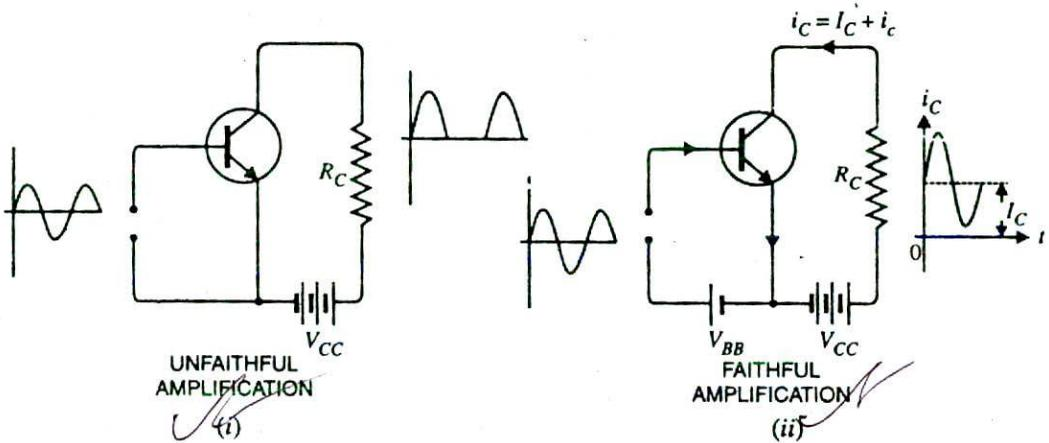

Fig. 11.1
**(i) Proper zero signal collector current.** Consider an *npn* transistor circuit shown in Fig. 11.1 (i). During the positive half-cycle of the signal, base is positive w.r.t. emitter and hence base-emitter junction is forward biased. This will cause a base current and much larger collector current to flow in the circuit. The result is that positive half-cycle of the signal is amplified in the collector as shown. However, during the negative half-cycle of the signal, base-emitter junction is reverse biased and hence no current flows in the circuit. The result is that there is no output due to the negative half-
Now, introduce a battery source  $V_{BB}$  in the base circuit as shown in Fig. 11.1 (ii). The magnitude of this voltage should be such that it keeps the input circuit forward biased even during the peak of negative half-cycle of the signal. When no signal is applied, a d.c. current  $I_C$  will flow in the collector circuit due to  $V_{BB}$  as shown. This is known as zero signal collector current  $I_C$ . During the positive half-cycle of the signal, input circuit is more forward biased and hence collector current increases. However, during the negative half-cycle of the signal, the input circuit is less forward biased and collector current decreases. In this way, negative half-cycle of the signal also appears in the output and hence faithful amplification results. It follows, therefore, that for faithful amplification, proper zero signal collector current must flow. The value of zero signal collector current should be at least equal to the maximum collector current due to signal alone i.e.